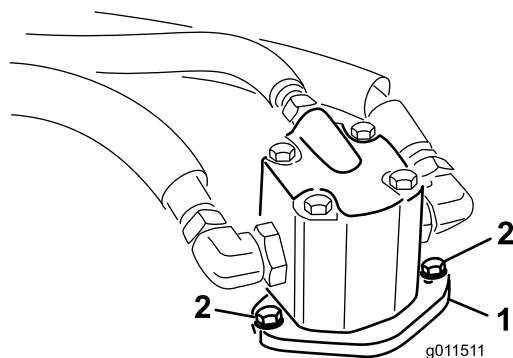

Figure 1
2. Remove the bolts securing the hydraulic motors to the deck (Figure 1).